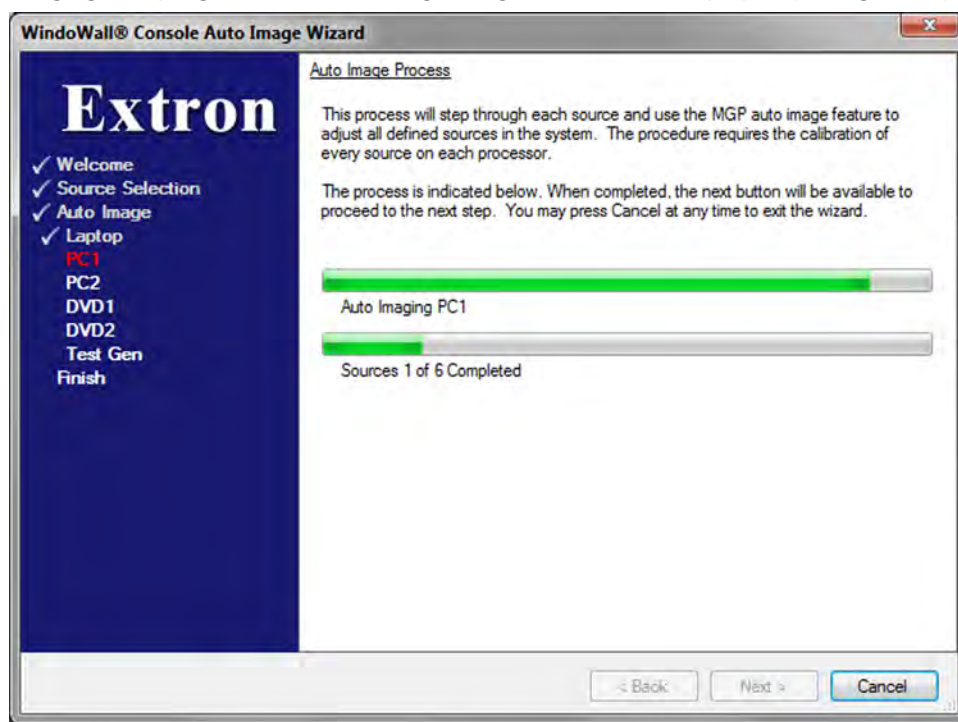

Figure 30. Auto Image Progress Bars — Auto Image Wizard
5. Click **Next**. The software performs auto imaging on each selected source. While auto imaging is in progress, the Auto Image Progress screen is displayed (see figure 30).